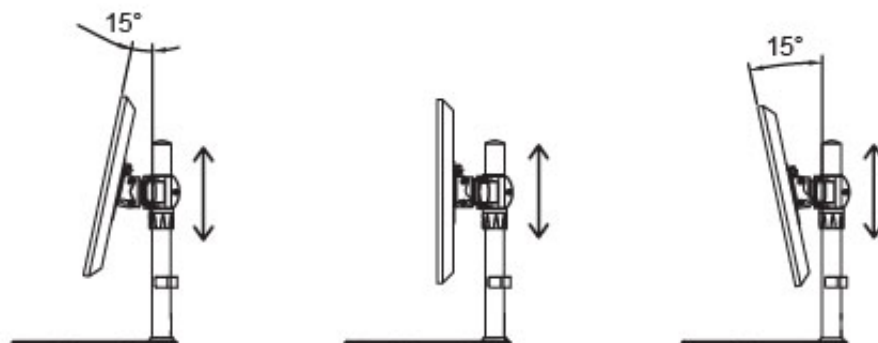

Figure 8
2. Adjust the display tilt angle to the desired position, see **Figure 8**.